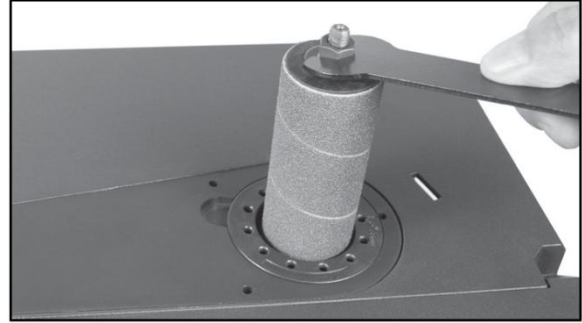

Figure 4: Tightening the Washer and Nut.
NOTE: Do not over-tighten the top nut as it'll over distort the rubber body and sanding sleeve and may damage the spindle's shaft and threading. Please see figures 4 for further explanation.
- 5- Install the right washer, lock washer and the top nut onto the spindle's top threaded end. Tighten the nut to expand the rubber body, this will secure the sanding sleeve in place figure 4.